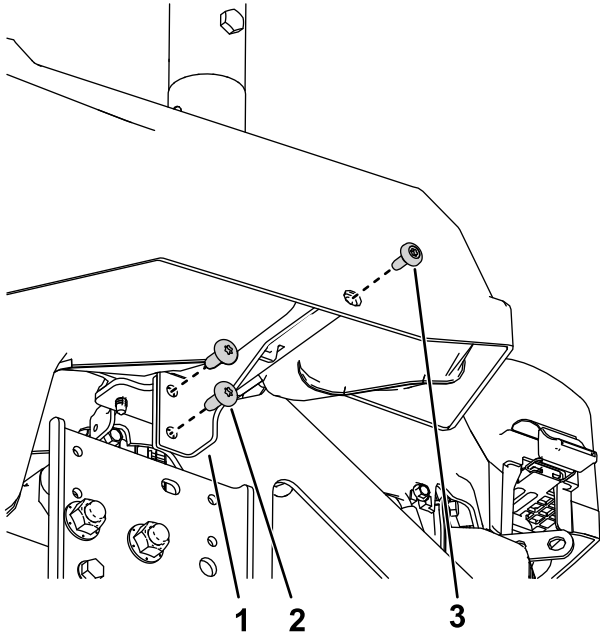

Figure 6
2. Install the left pod bracket to the machine frame using 2 thread-forming screws (5/16 x 3/4 inch) and the parts removed in 1 Preparing the Machine \(page 3\) as shown in Figure 6.